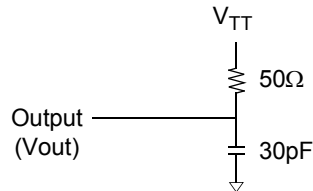

Figure 1. Timing Reference Load
- Figure 1 represents the timing reference load used in defining the relevant timing parameters of the part. It is not intended to be either a precise representation of the typical system environment nor a depiction of the actual load presented by a production tester. System designers will use IBIS or other simulation tools to correlate the timing reference load to a system environment. Manufacturers will correlate to their production test conditions (generally a coaxial transmission line terminated at the tester electronics).